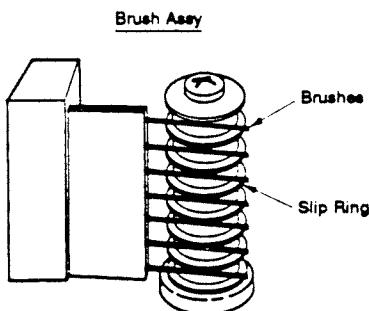

FIG. 2
4. With Alcohol soaked Texwipe®, carefully clean the brush contacts, contact grooves of slip ring Assy. See Fig. 2
1. Adjust the vertical position of the brushes. Make sure that they're aligned to the center of the slip ring grooves. As shown in Fig. 2
Grease the cam gear (C) in the tape-unloaded position, as shown in Fig. 2. Then set the machine to the tape-loaded position and apply grease to the areas which were inaccessible before. The procedure to set the machine in the tape-loaded position is described above.